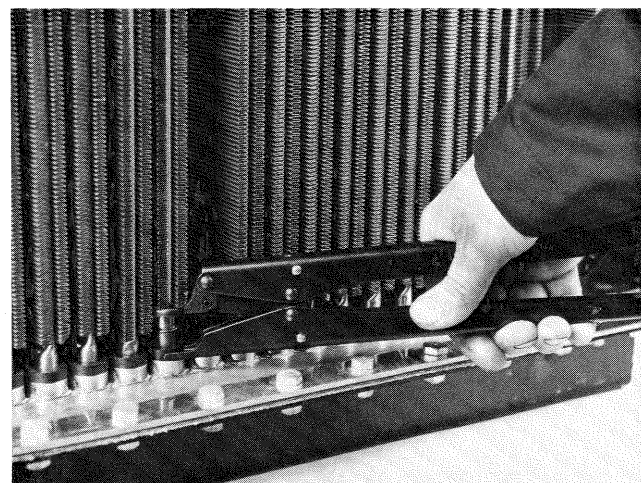
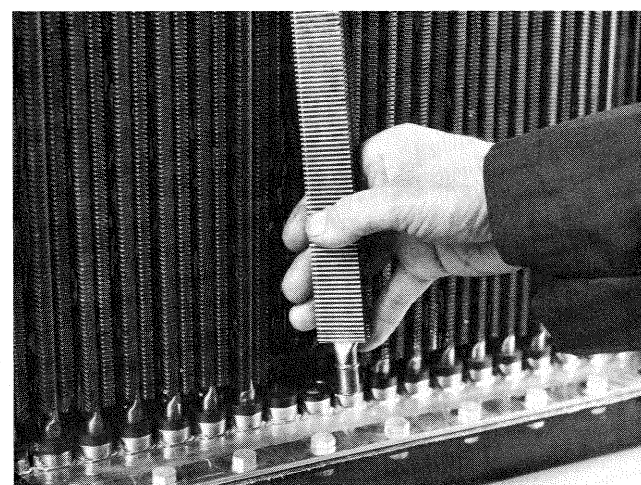

Fig. 2
Fig. 3
After tube is free, place upper jaw of installation Tool around the round portion of tube, just below the flattened portion. Place lower jaw so that taper of jaw seats between seal and metal ferrule, as shown in **Fig. 2**, not on top of seal. Squeeze handles of tool together and raise tube only enough to clear bottom seal. Put down tool and swing tube out just far enough to allow tube to be pulled down and out of its top seal, as shown in **Fig. 3**.
- Use the L&M installation and removal tool in the same manner as described in paragraph 2 and Figure 2 on page 6 of this manual. Note in **Photo B** on this page that the tube should be raised high enough so that the interlocking ITS tab clears the adjacent dovetail groove, and also so that the bottom of the tube clears the bottom seal.